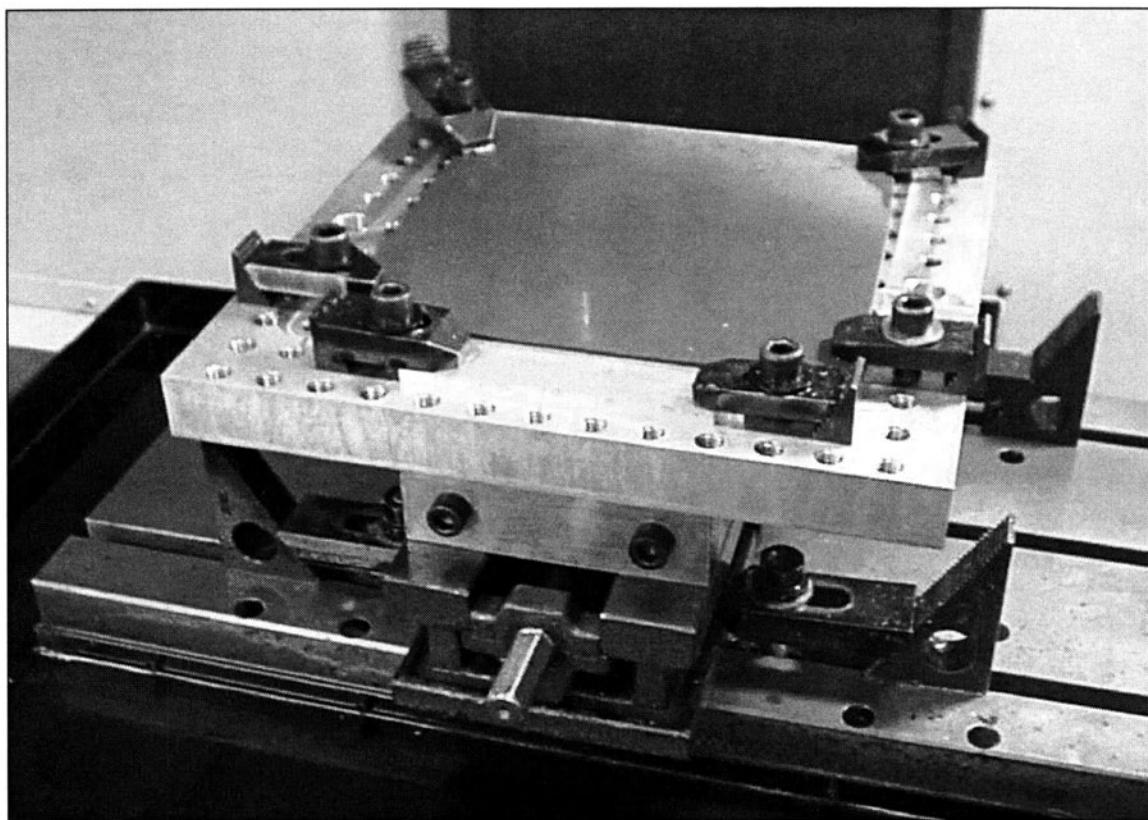

FIGURE 3-12 This subplate has a bar mounted on the bottom that allows the subplate to be held in a milling machine vise.
16. Make a subplate that can be mounted in a vise. (See Fig. 3-12)